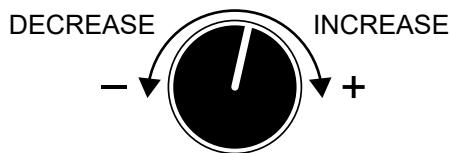

Figure 13. Voltage Regulator
The voltage regulator (Figure 13) allows the user to increase or decrease the selected voltage.
2. Turn the **voltage regulator** (Figure 13) clockwise to increase voltage output, turn counterclockwise to decrease voltage output. Use the voltage regulator whenever fine tuning of the output voltage is required.
2. Turn the **voltage regulator** (Figure 13) clockwise to increase voltage output, turn counterclockwise to decrease voltage output.